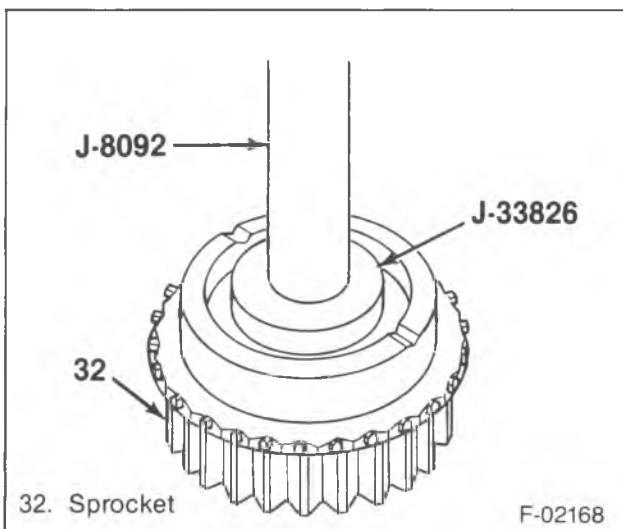

Figure 18—Drive Sprocket Bearing Removal
3. Synchronizer hub retaining snap ring (26) from the mainshaft.
4. Synchronizer hub (27) from the mainshaft.
5. Drive sprocket (32).
6. Thrust washer (33).
7. Caged roller bearings (31) from the drive sprocket (32), using J 33826 and J 8092 (figure 18).
8. Synchronizer keys (28) from the synchronizer hub.
9. Retaining rings (29) from the synchronizer hub (27).